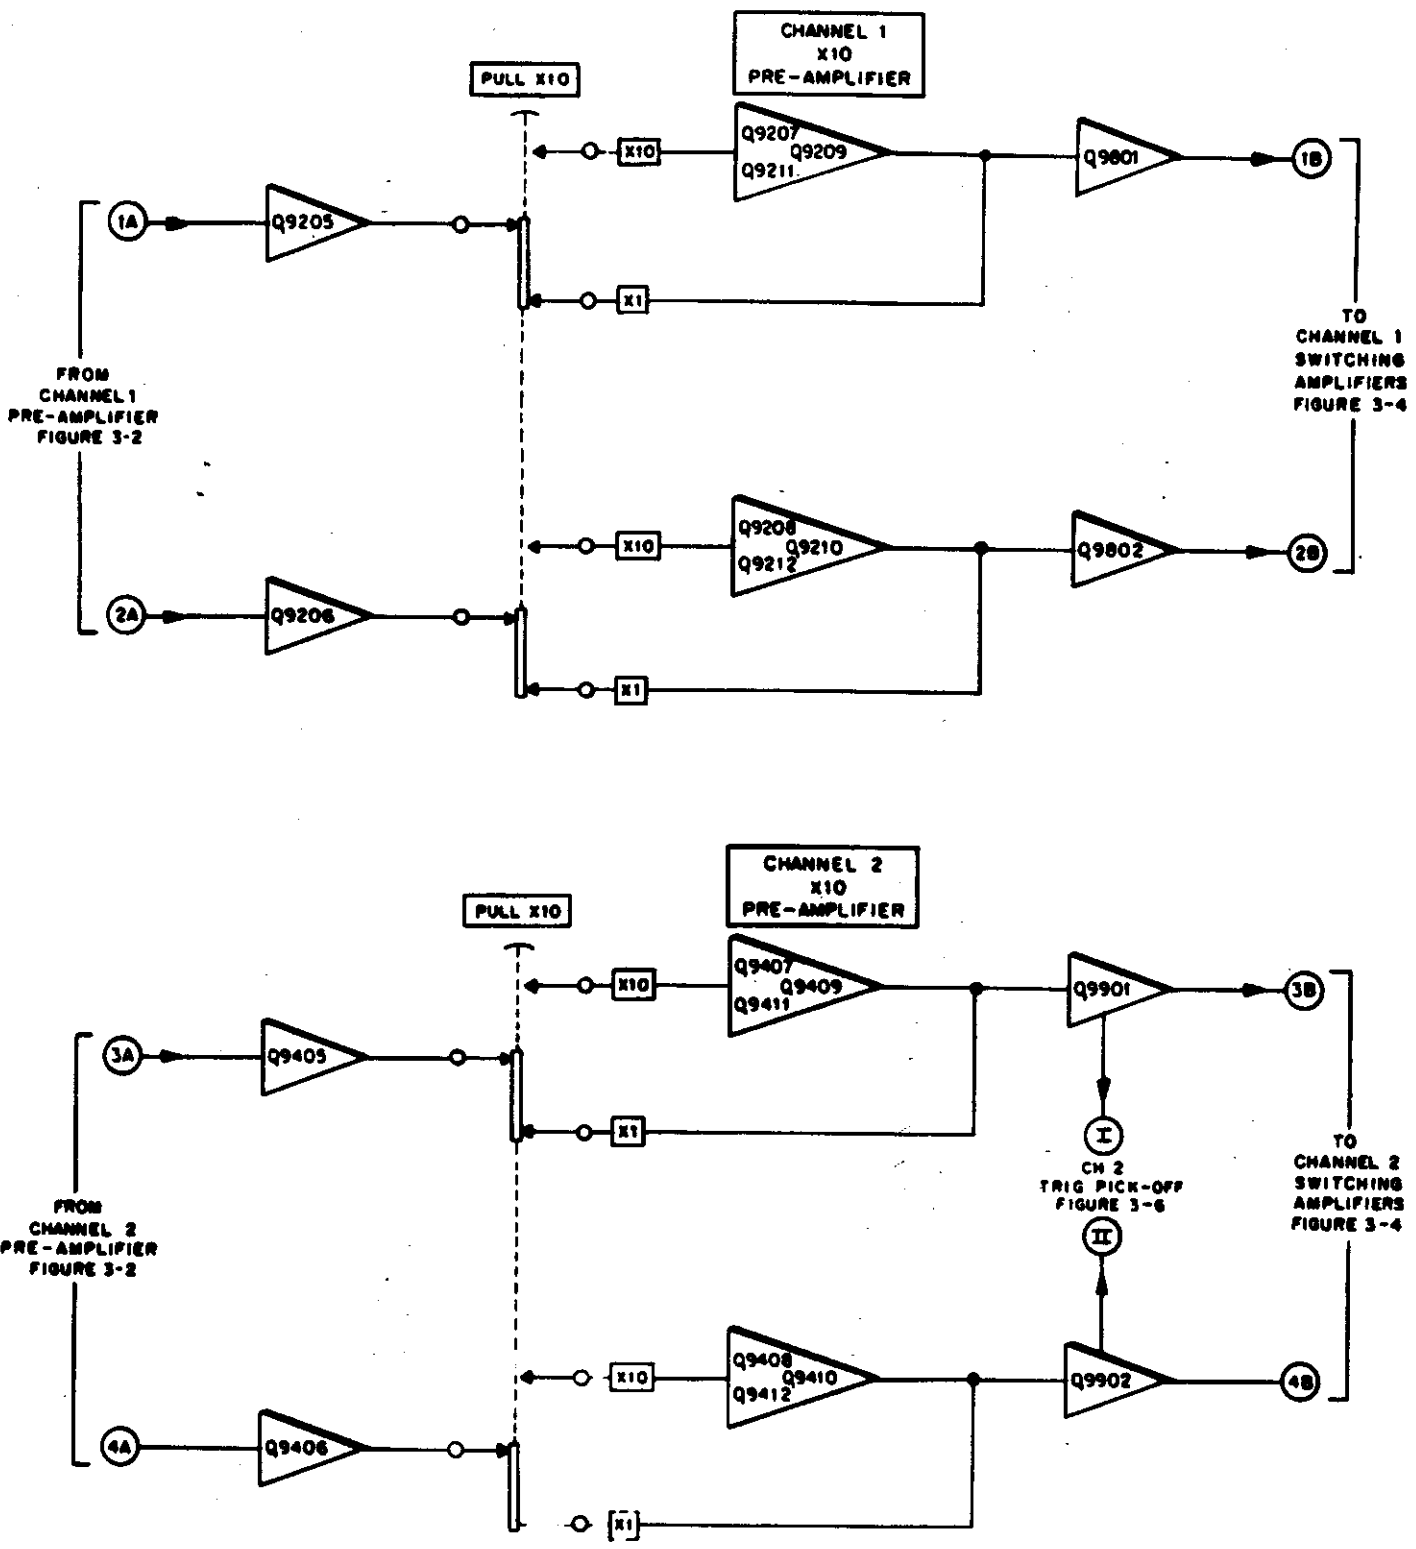

FIGURE 3-3. TYPE 79-02A X10 AMPLIFIERS, FUNCTIONAL BLOCK DIAGRAM
- Figure 3-3. Type 79-02A X10 Amplifiers, Functional Block Diagram